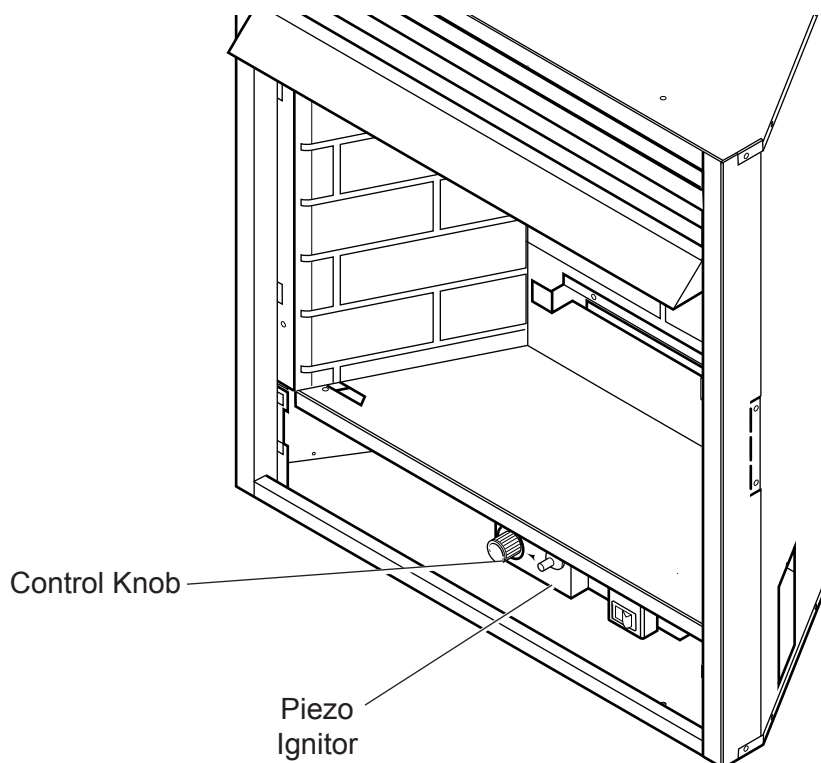

Figure 44 - Location of Piezo Ignitor & Control Knob
4. See *Figure 44, page 29* for the location of the piezo ignitor and control knob. Turn control knob clockwise  to the OFF position.